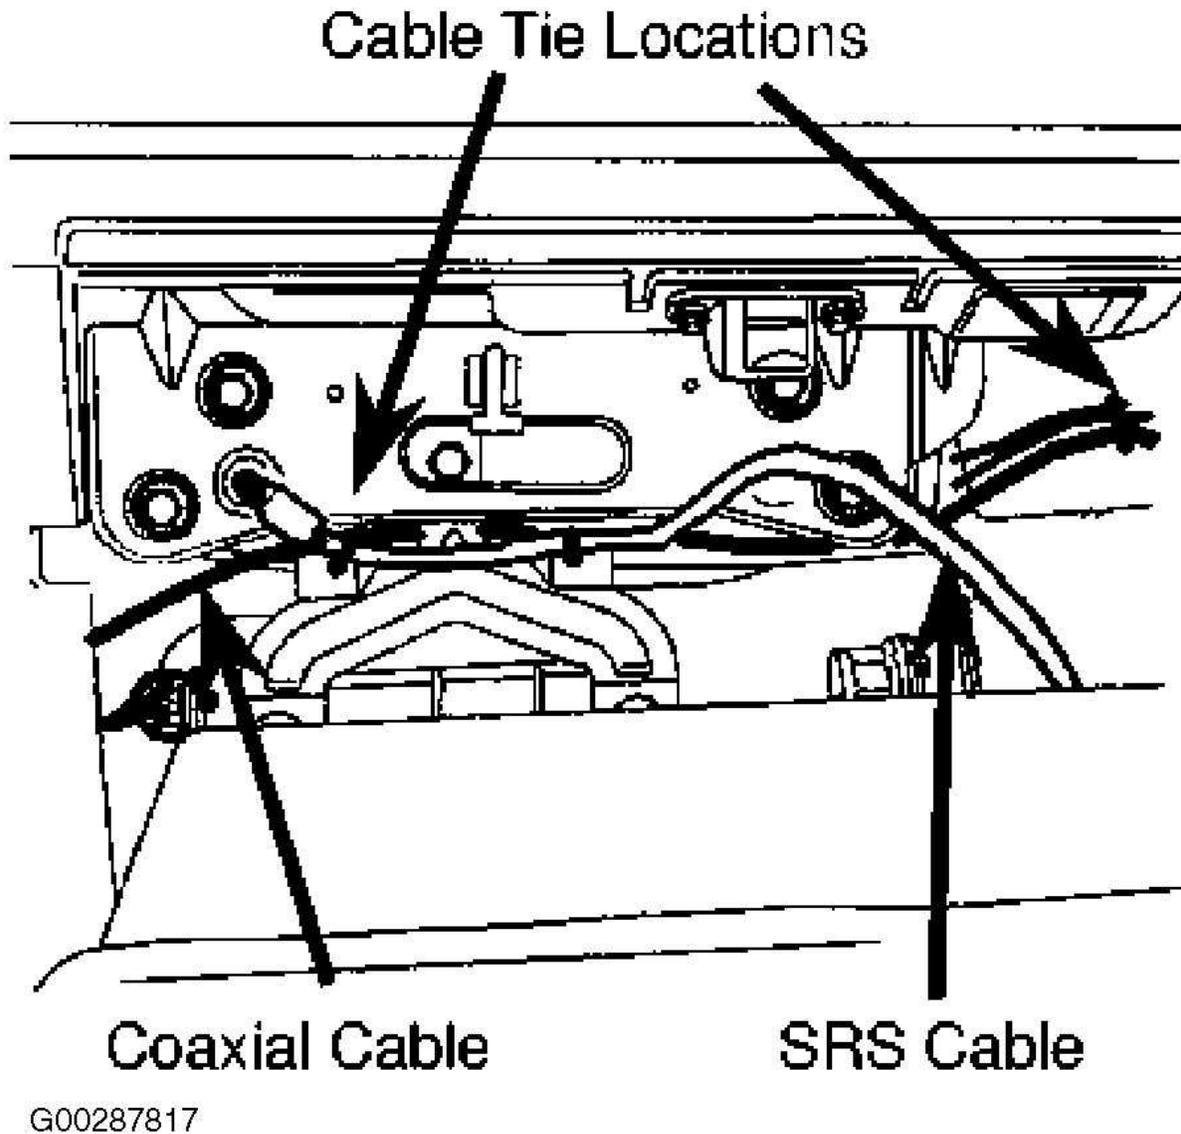

Fig. 1: Cable Tie Locations
6. Secure the SRS wire and coaxial cable to the blower mounting bracket on left side with a cable tie. See Fig. 1.